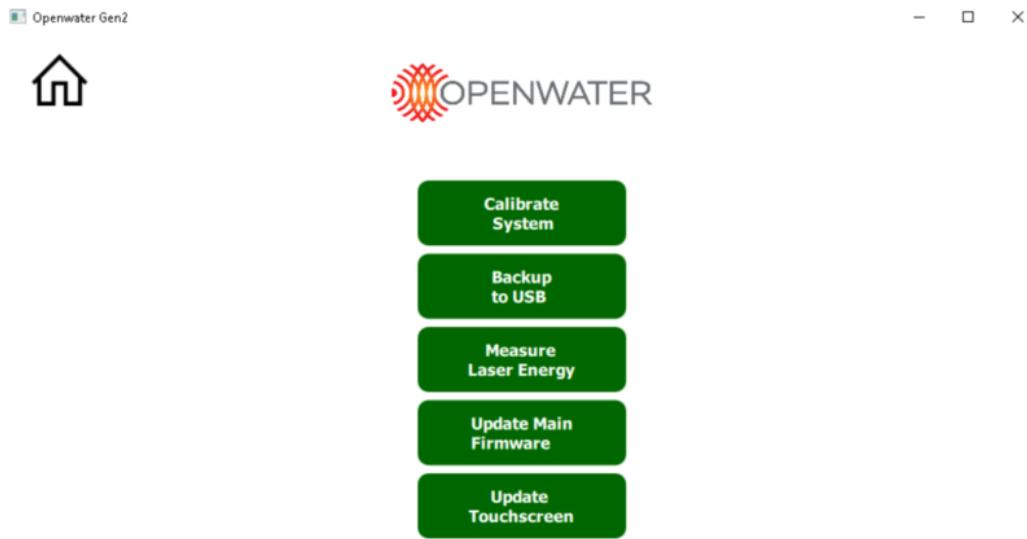

Figure 16: Choosing maintenance action in maintenance mode.
- This takes the user to the next screen (Figure 16), where they can choose to Calibrate System, Backup to USB, Measure Laser energy, Update Main Firmware, or Update Touchscreen.